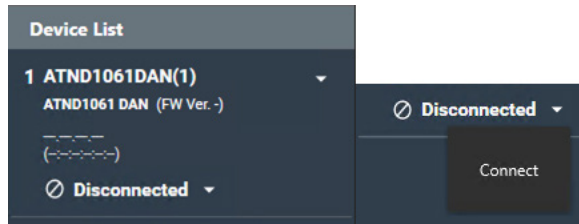

Figure 6. Connect Device List
- Click the arrow beside Disconnected for the desired microphone and select **Connect** (see figure 6).